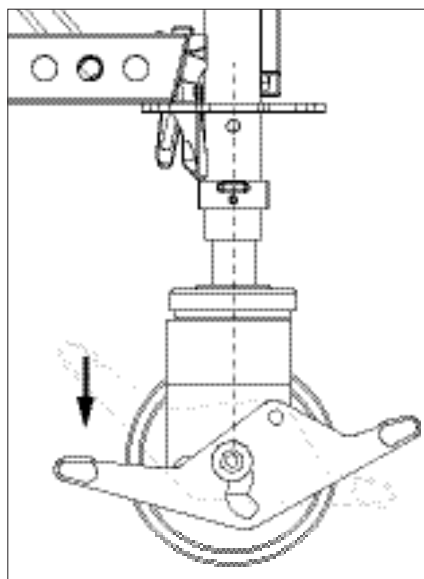

Fig. B1.01a
- To activate the brake, press the pedal with the red colour marking down up to the stop. (Fig. B1.01a)